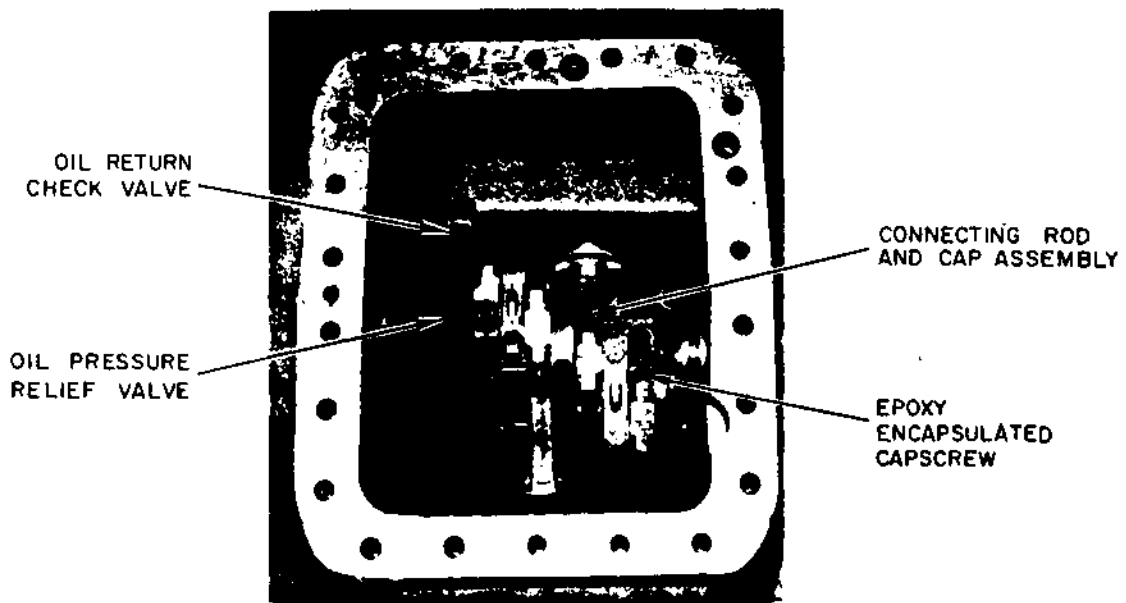

Figure 3-2. Bottom Plate Removed
- d. Tap the connecting rod locking devices (if installed) flat and remove the capscrews and connecting rod caps. See figure 3-2. Match mark each connecting rod cap and connecting rod for correct reassembly.
f. Remove and check operation of the oil return check valve. See figure 3-2, page 3-3.
a. Check operation and reinstall check valve and relief valve. See figure 3-2, page 3-3, page 3-4.